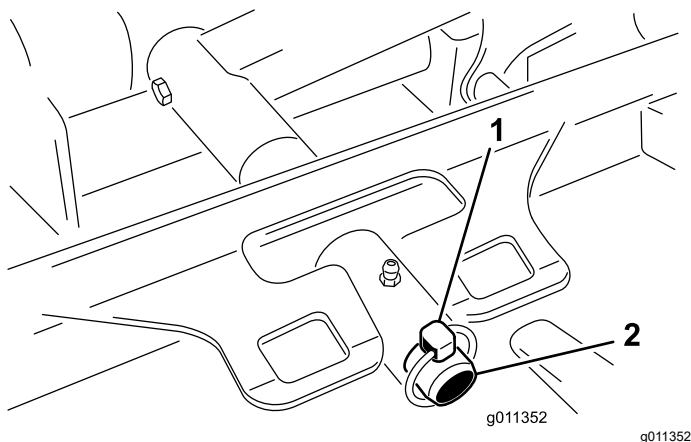

Figure 68
3. Remove the lynch pin or retaining nut securing the deck carrier frame to the lift arm pivot pin (Figure 68).
3. Slide deck carrier frame onto lift arm pivot pin. Secure with lynch pin or retaining nut (Figure 68).